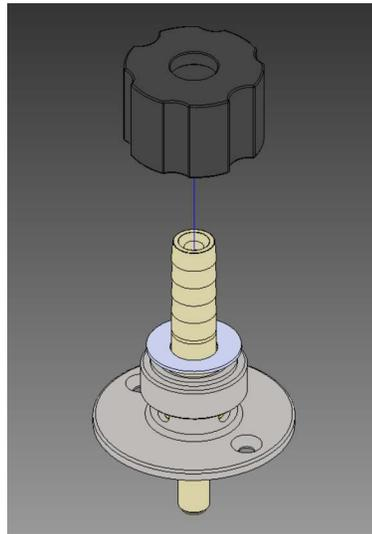

FIGURE F. 6. – KNOB REMOVAL
6. Rotate the knob counterclockwise to remove from the rest of the assembly (see Figure F.6.)